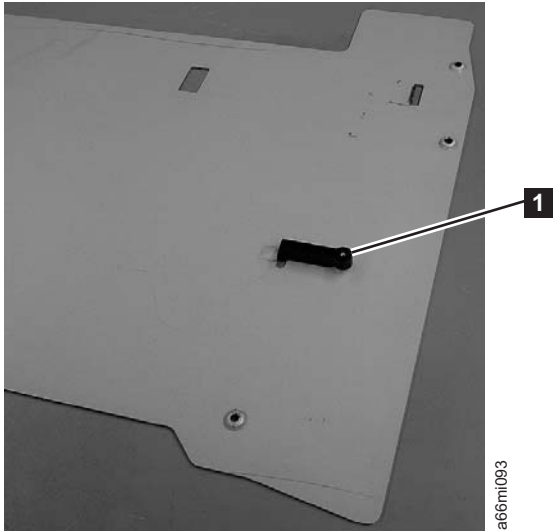

Figure 4-9. Home sensor on inner side of bottom cover
**Note:** Ensure that the home sensor plastic piece is mounted on the inner side of the bottom cover ( **1** in Figure 4-9 on page 4-11).